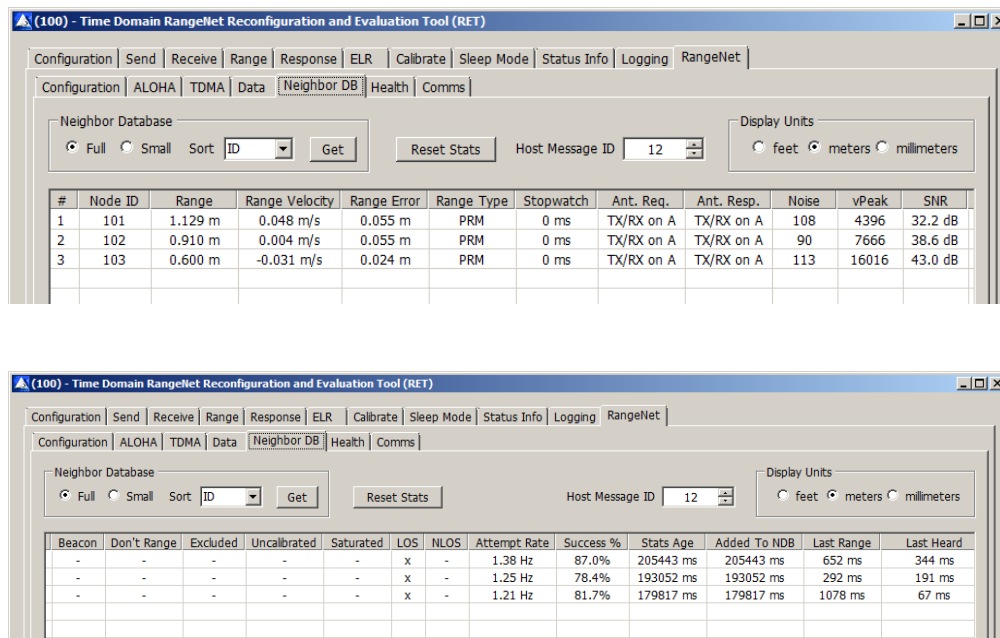

Fig. 6: Representative neighbor database of a 4-node system
- Monitor the database at whatever update rate the user finds useful. **Figure 6** illustrates the database from a 4-node system. Note the extent and volume of statistics maintained in the database. (For details on the meaning of specific fields, refer to the RangeNet User Guide.)